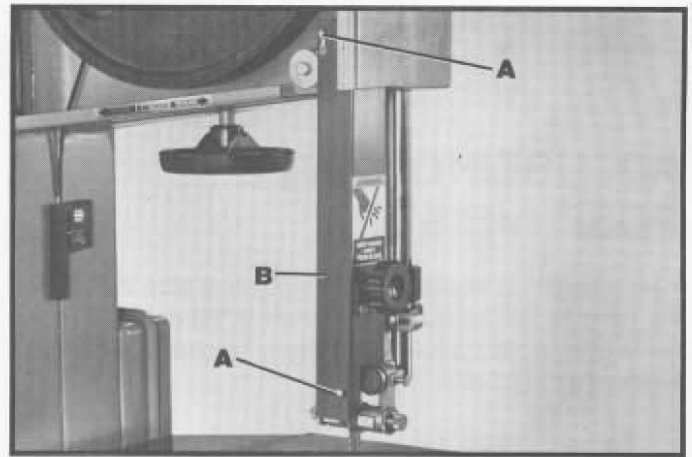

Fig. 24
2. Loosen two screws (A) Fig. 24, and remove the upper blade guard (B).